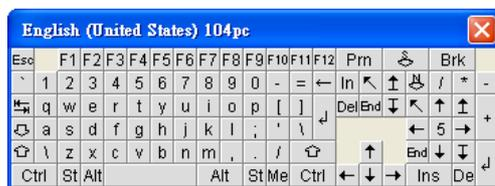

Figure 10-9 Soft Keyboard
- o Soft Keyboard: A virtual keyboard for easy input. It also provides localized keyboard mapping. Please refer to Figure 10-9.